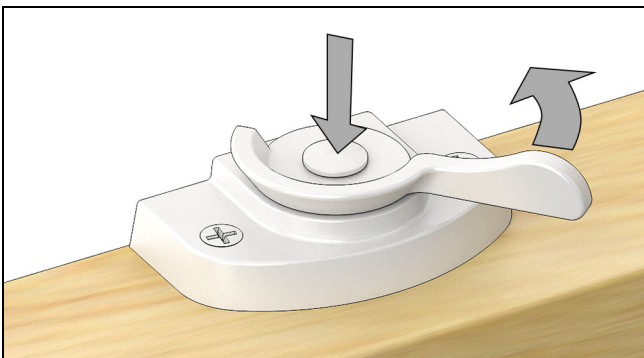

Figure 65
2. Raise sash to a comfortable position. Hold button in center of lock handle down while rotating handle to 180° position. See Figure 65.